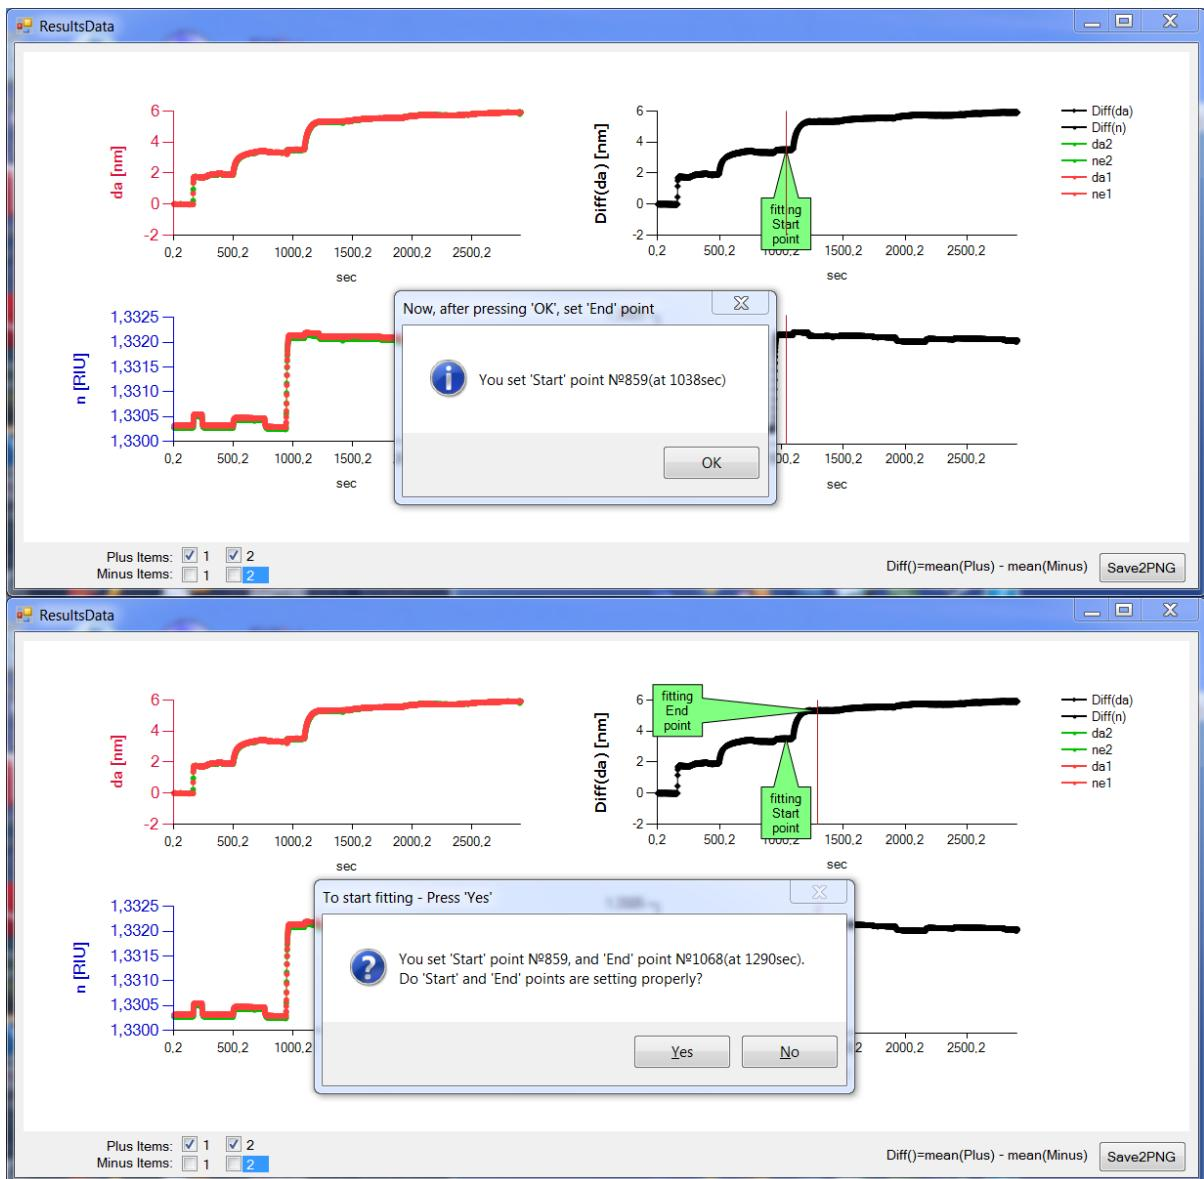

Figure 14. Selection of 'Start' and 'End' points in data loaded from a file.
*In the ResultsData window, one can select a section of data for future fitting in the 'Diff(da) [nm]' graph by pressing **Shift RightMouseButton** (see **Figure 14** for illustration). The same selection in the 'Diff(n) [RIU]' graph may be made by pressing the **Alt RightMouseButton**.*